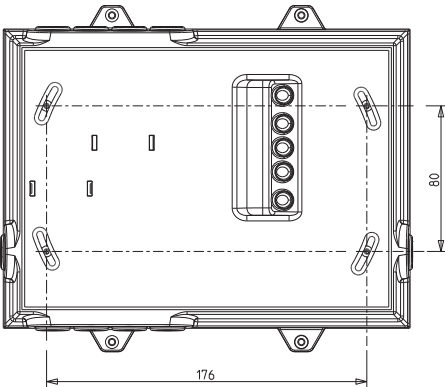

Fig. 2: Back View of Deep Back Cover - Fixing Screw Positions
- 3 Prepare four holes in the wall by following the dimensions given in Fig. 2 for the screws plugs supplied.
- 4 Mount the deep back cover (1) on the wall using the screw plugs and fixing screws (5) supplied.